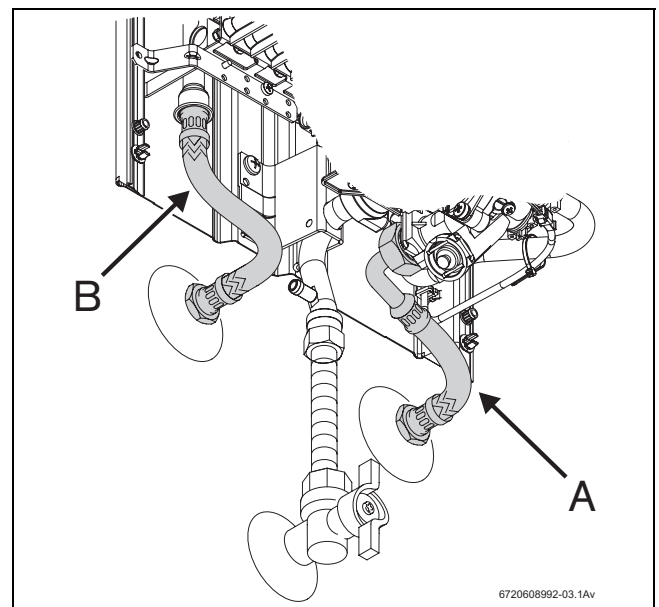

Fig. 5 Water connection
- ▶ Identify the cold water pipe (Fig. 5, item A) and the hot water pipe (Fig. 5, item B), so as to avoid any possible cross-connection.